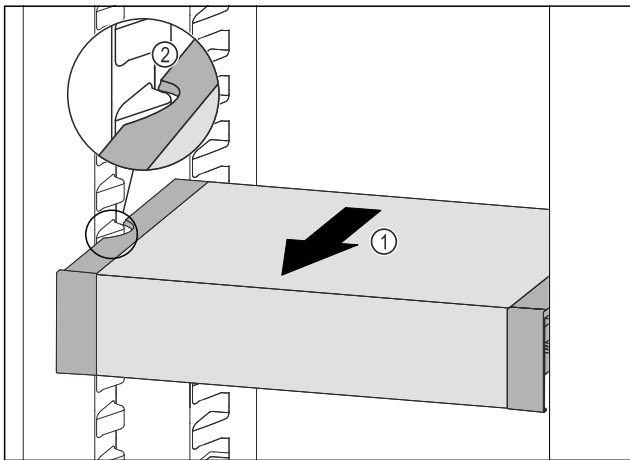

Fig. 82
- ▶ Pull VarioSafe forwards Fig. 82 (1) until the recesses in the side of the VarioSafe are at the level of the support rib in the fridge section. Fig. 82 (2)